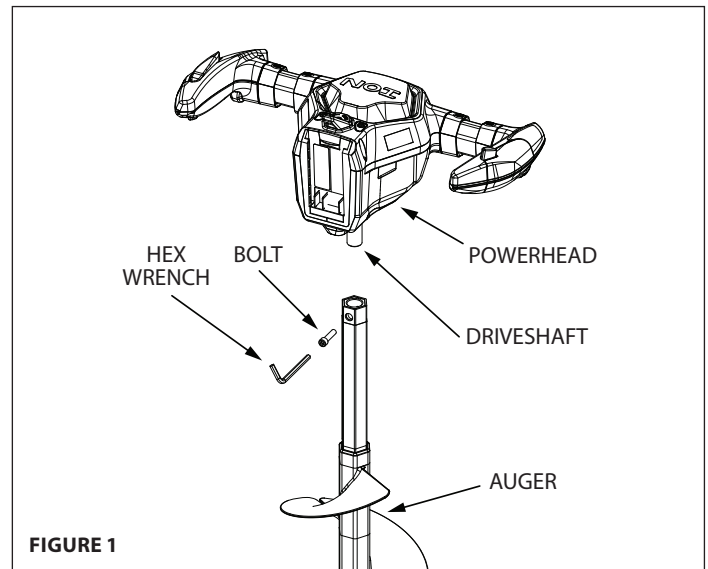

FIGURE 1
2. Insert the output shaft of the powerhead into the stem of the auger and align the hole in the stem with the hole in the output shaft. **SEE FIGURE 1**